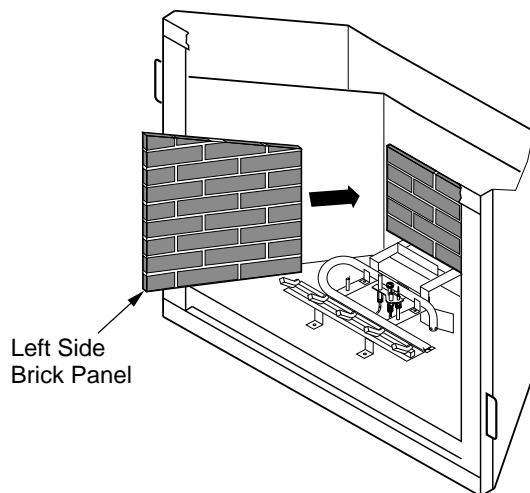

Figure 39 - Installing Side Brick Panels
6. Install left side brick panel by sliding it between the grate and the side of the firebox (see Figure 39).